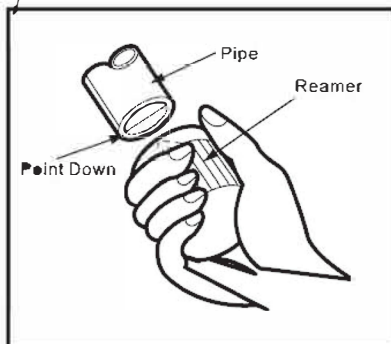

Fig. C.6.4
- 2) Remove burrs on the cutting edges. Keep the pipe outlet down to avoid getting the metal burrs into the pipe (Fig. C.6.4).